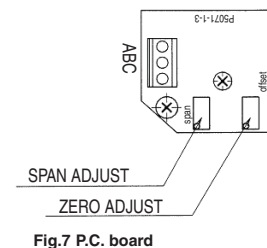

Fig.7 P.C. board
- (1) The Output signal is configured to increase in normal operation (clockwise) when shipped.
- (2) To apply the positioner in reverse operation (counter-clockwise), specify the accessory classification 'JR' when ordering. Alternatively, to change the operation of the delivered product, re-arrange the cam to the opposite side and switch the terminals 'A' and 'C' (refer to Fig.7), to reverse the direction of the output signal.